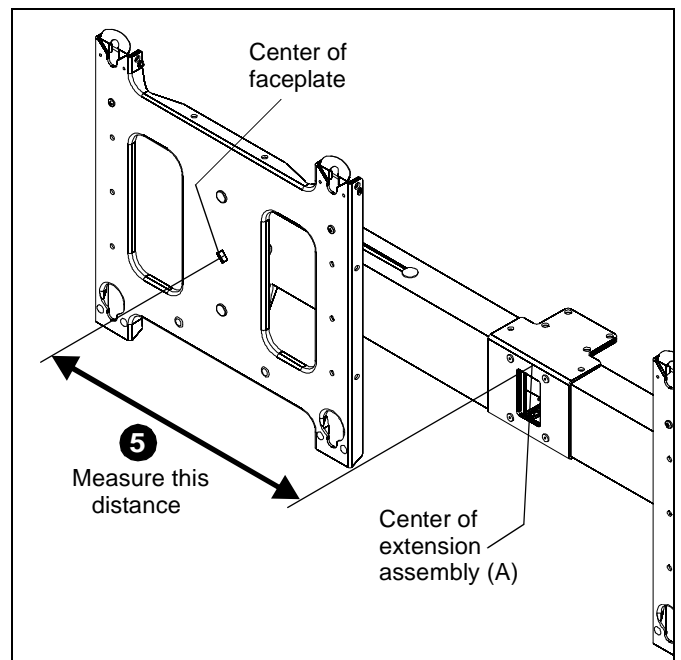

Figure 4
5. Measure distance from center of faceplate to center of extension assembly (A). (See Figure 4)